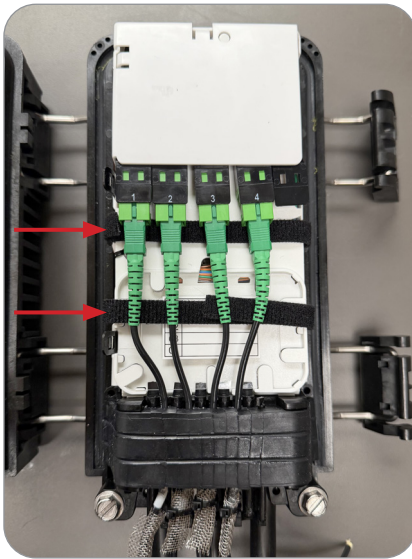

Figure 33
1. Secure the splice tray covers using the supplied Velcro strap. Ensure the cover is fully seated and retained before closing the terminal. (Figures 33 and 34)
2. Secure the Cable Holder Top on the enclosure by fully tightening the two (2) captive screws.